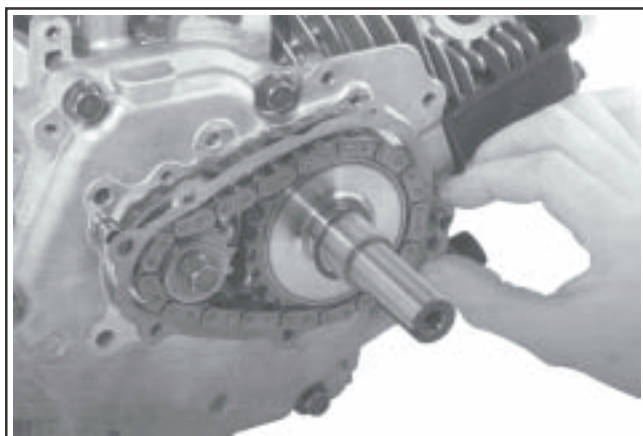

Figure 11-34. CS4, CS6. Installing Dowel Pins and Gasket.
5. Install the dowel pins into their respective locations in the closure plate, and install a new gasket (dry) onto the dowel pins. See Figures 11-34 and 11-35.